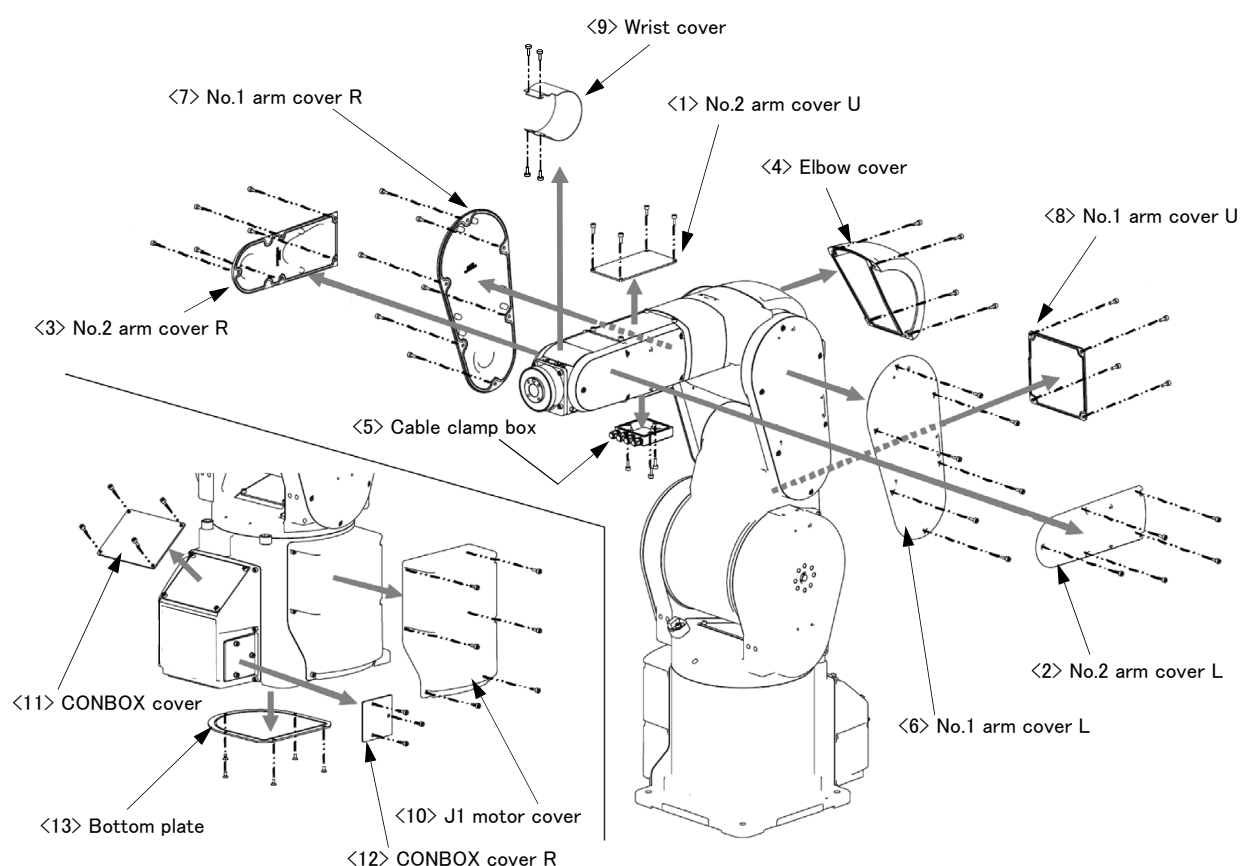

Fig.5-5 : Installing/removing the cover (RV-4FR/7FR series)
- (1) Refer to Fig. 5-5, and remove the covers.
- (2) The names of the cover and installation screw are given in Table 5-5. The number in Table 5-5 correspond to Fig. 5-5.
- (3) Depending on the robot's posture, some covers are hard to be removed. In such a case, change the robot's posture by performing jog operation to remove the covers.
- (4) When removing the wrist cover, move the J5 axis to the position of +90 degrees by jog operation.
- (5) When reattaching the covers after a maintenance inspection, proceed in the reverse order of their removal. Tightening the screw with the torque shown in Table 5-5.
- (6) When the cover is removed, the thermal conductive sheet may come off. Reattach the sheet and then attach the cover.